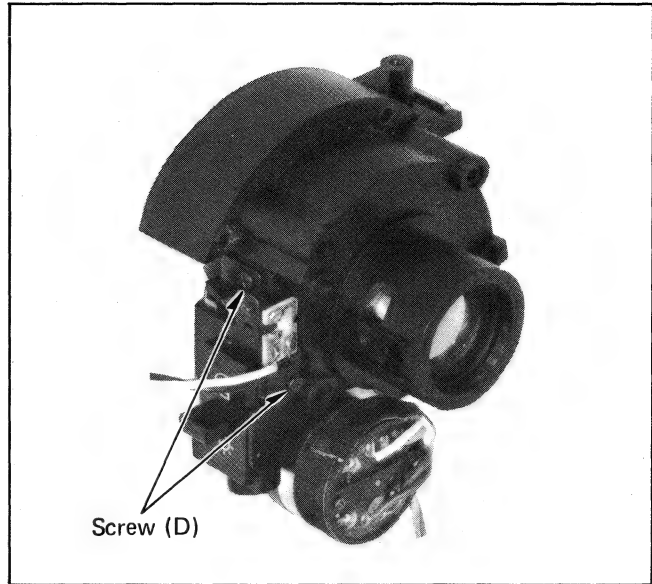

Fig. 24
- 10-3. Unscrew 2 screws (D) and remove the filter holder assembly (see Fig. 24).